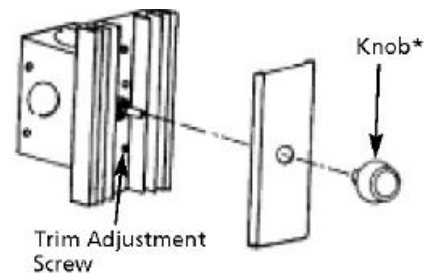

Figure 4 - Low Speed Adjustment
2. Adjust the trim setting through the access opening in the front of the control (See Figure 4) using a small insulated flat tipped screwdriver. With fans running on low speed setting, trim the adjustment screw slightly counterclockwise to further reduce speed.